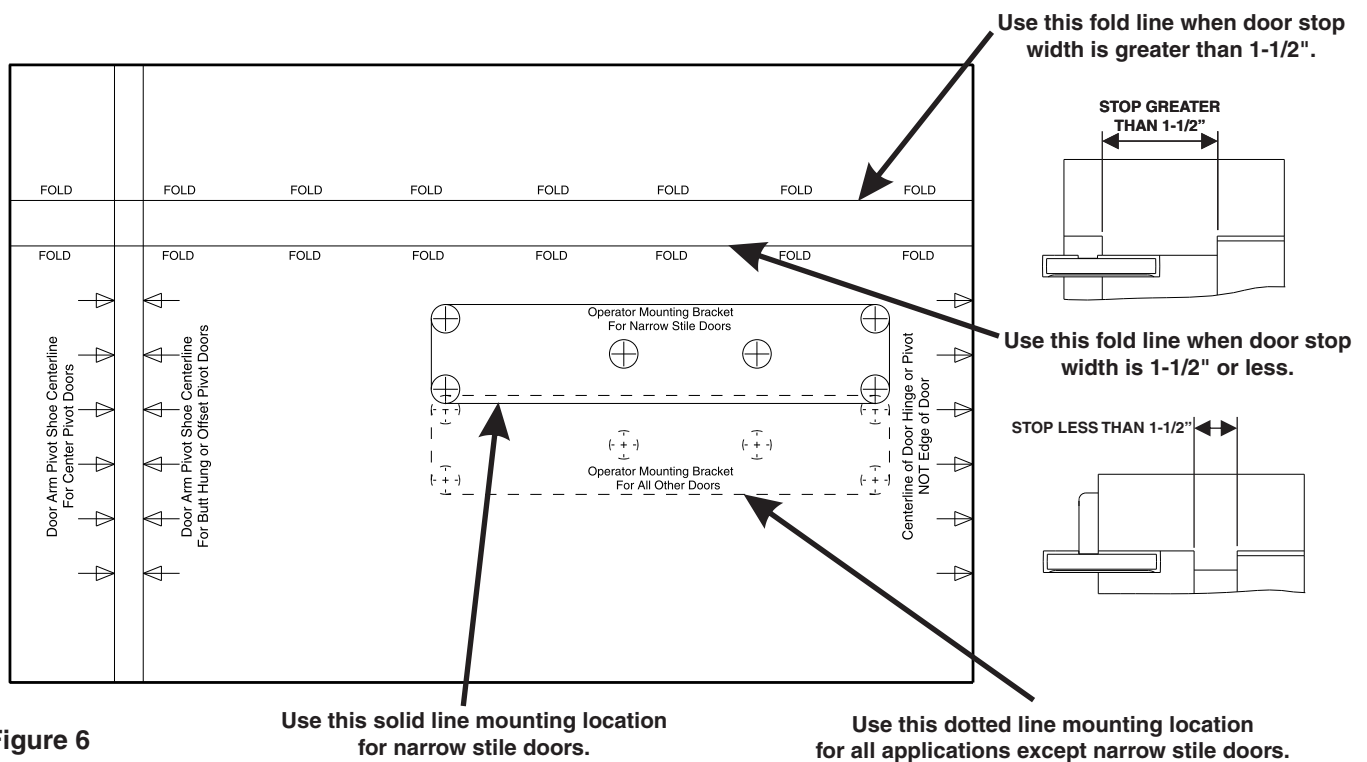

Figure 6
5. Refer to Figures 6 and 9, and DETERMINE which operator mounting template fold line to use as follows: